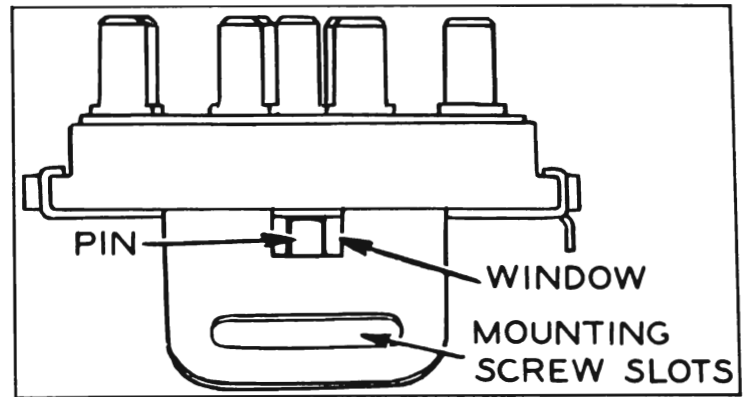

Figure 10-72—Checking Direction Signal Switch Adjustment
2. Loosen two switch mounting screws and move switch up or down steering column jacket until pin projecting from switch is centered in window. See figure 10-72. Pin can be accurately centered by holding a light in back of switch while sighting through window. Tighten switch mounting screws.